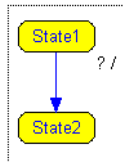

Figure 48: Objects selected
- I In the diagram, not on the objects to be selected, click the left mouse button, hold it down and draw a box (dotted line) around the objects. See *Figure 48*, page 62.